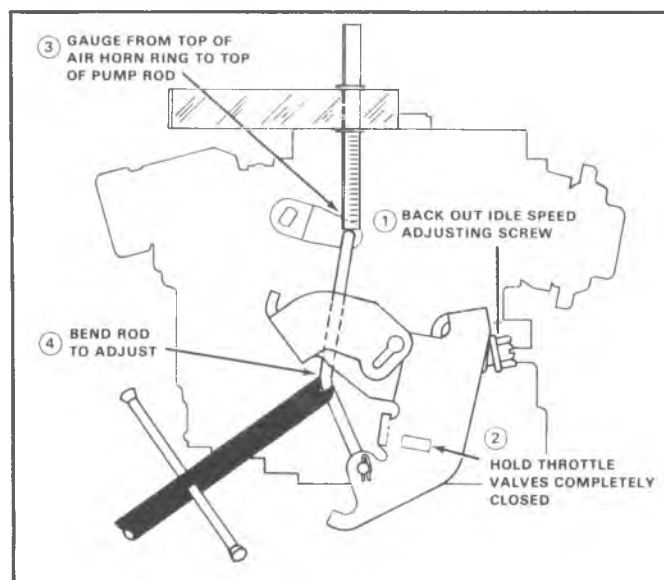

Fig. 27—Pump Rod Adjustment
**PUMP ROD ADJUSTMENT (Fig. 27)**